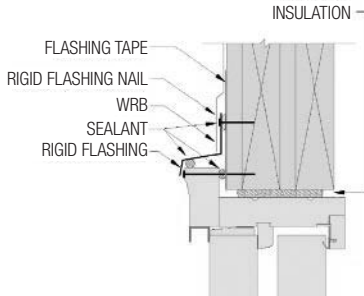

FIG. 17: HEAD JAMB
- Apply sealant: Apply a bead of sealant at the vertical and horizontal contact surface of the rigid metal flashing. (Fig. 17)
- Apply the rigid metal flashing. The flashing should extend approximately 1/8" past the edge of the brickmould on each side. Nail the flashing to the rough opening using at least a 1" roofing nail every 8"-10" approximately 1/2" from the top of the rigid flashing. Ensure that the nail is compatible with the rigid flashing material to prevent corrosion. (Fig. 17 & 18)
- D) Insulate between the door frame and the rough opening using minimally expanding window and door spray foam insulation. Use caution to not overfill the gap, causing the jambs to bow. It is not recommended to apply foam trim to the unit until the foam has cured to allow the excess to escape. (Fig. 17 & 19)